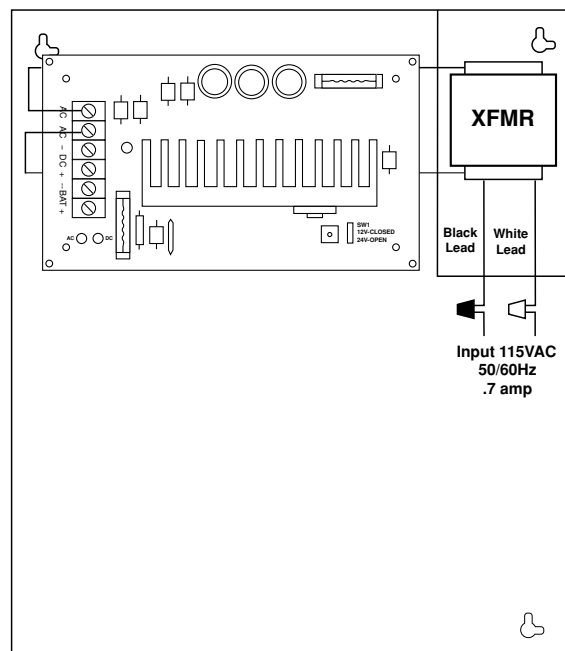

Fig. 1
2. Connect AC power to the black and white flying leads of the transformer (*Fig. 1*).
4. Connect devices to be powered to the terminals marked [- DC +] (*Fig. 1*).
5. Connect battery to the terminals marked [- BAT +] (*Fig. 1*) on the unit (battery leads included).